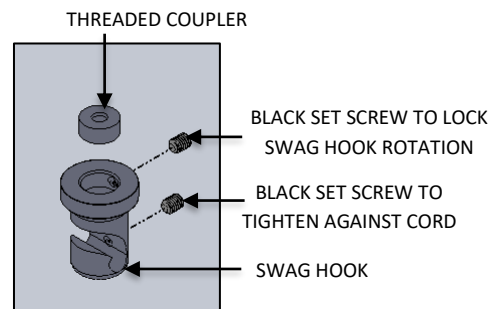

FIG. 6 RED BAG CONTENTS
- a. SWAG HOOK (as shown in FIG. 6)
- b. THREADED COUPLER (as shown in FIG. 6)
- c. BLACK SET SCREW TO LOCK SWAG HOOK ROTATION (as shown in FIG. 6)
- d. BLACK SET SCREW TO TIGHTEN AGAINST CORD (as shown in FIG. 6)